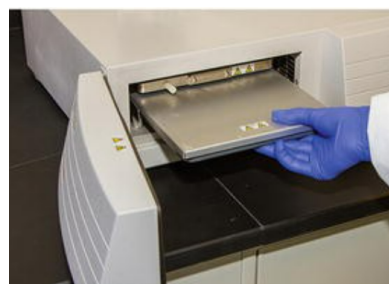

Figure 25: Incubate overnight at 37°C
10. Close hybridization chamber, insert tray into oven, and clamp tray into place. **Incubate at 37°C overnight** (16 – 18 hours) (Figure 25).